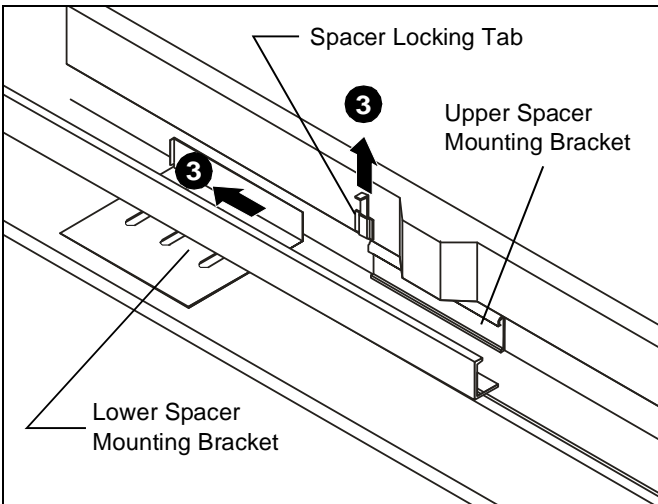

Figure 1
3. Remove lower spacer mounting bracket by pulling the locking lever outward and sliding the alignment bracket left until free of upper spacer mounting bracket. (See Figure 1)